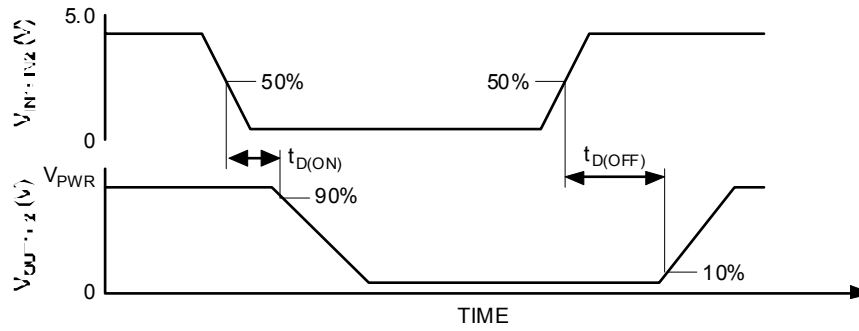

Figure 6. Output Delay Time
25. Output Delay is the time duration from the midpoint of the IN1 or IN2 input signal to the 10% or 90% point (dependent on the transition direction) of the OUT1 or OUT2 signal. If the output is transitioning HIGH-to-LOW, the delay is from the midpoint of the input signal to the 90% point of the output response signal. If the output is transitioning LOW-to-HIGH, the delay is from the midpoint of the input signal to the 10% point of the output response signal. See Figure 6, page 12.